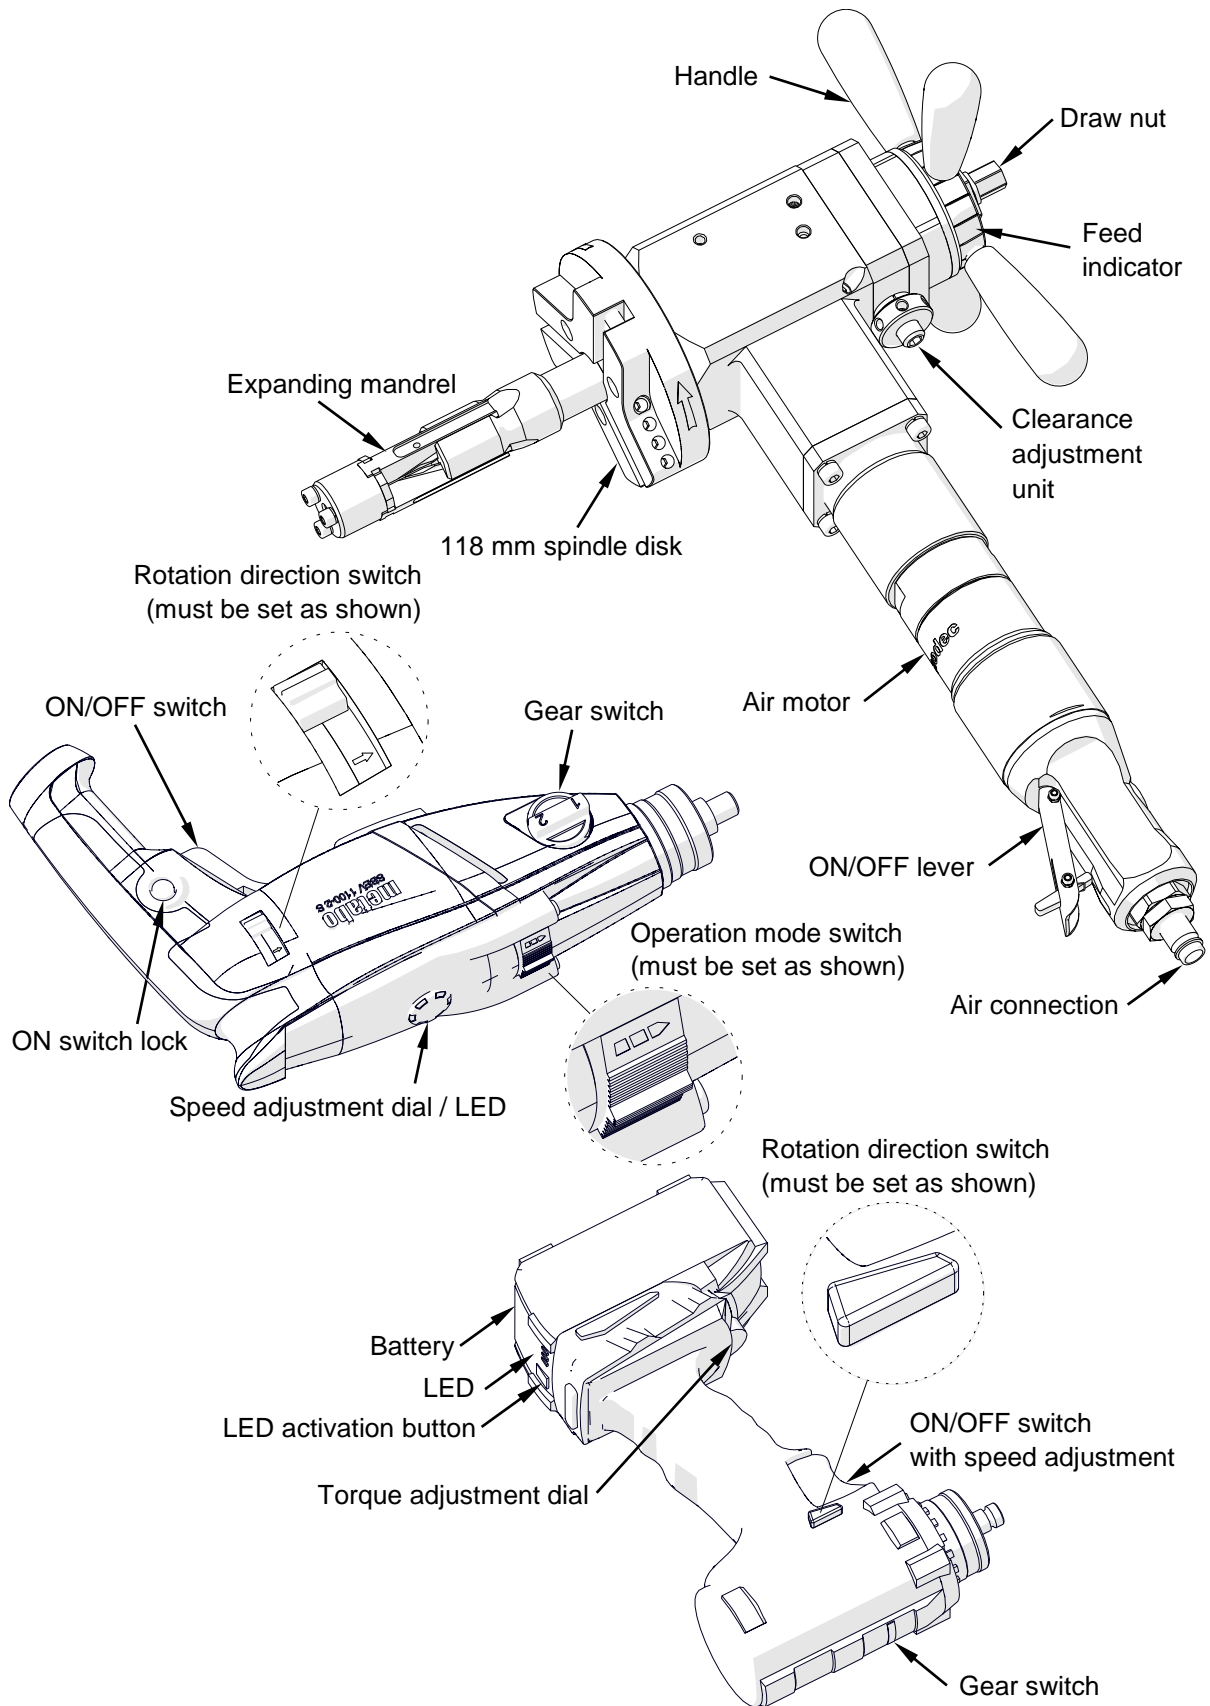

Fig. 1. View of PRO 5 PB and of PBE electric motor and PBC battery motor
20. Use an electric/battery motor only when the rotation direction switch and operation mode switch are set as shown in Fig. 1. Using left rotation or impulse mode (switches set to the opposite positions) may damage the machine.
In electric/battery motor, set the rotation direction switch as shown in Fig. 1. In battery motor, set also the operation mode switch as shown in Fig. 1.